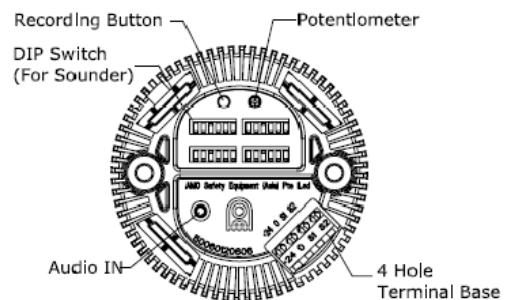

Fig. 6
**Sounder:** (see Fig. 6)
### Sounder: (see Fig. 6)
As same as above LED type in Single Unit (See fig. 6)
Use the four (4) DIP switches with 6 binary codes on the Sounder PCB to select tones (See Fig 6).
The BHB has a volume control to adjust the output volume of the sounder component. To set the required output volume, adjust the potentiometer-VR1 on the PCB (See Fig 6). The potentiometer should be set to fully clockwise position if maximum output volume is needed.